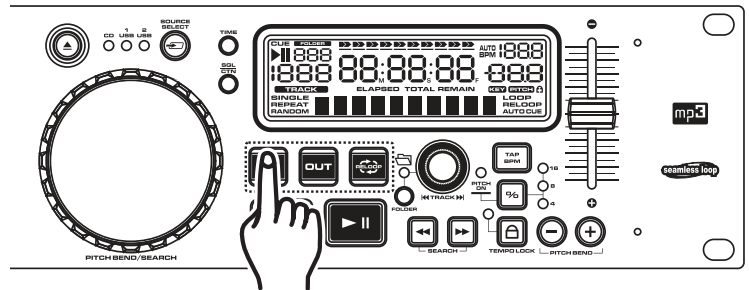

Figure 22
1) Press *PLAY/PAUSE BUTTON (15)* to activate playback mode.
2) Press the *IN BUTTON (17)*. This will set the starting point of the SEAMLESS LOOP (figure 22). The *IN BUTTON (17)* will blink.